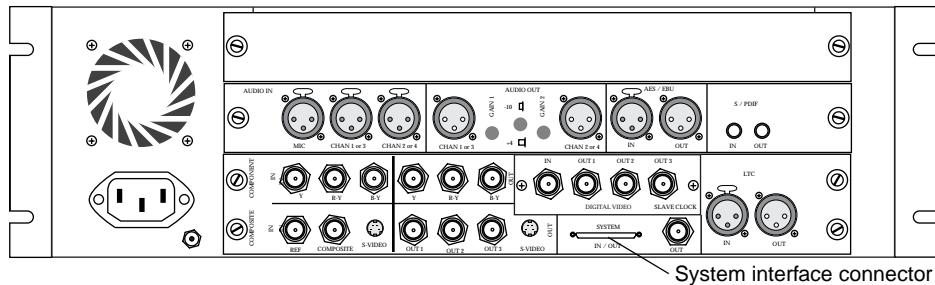

Figure 5-2 Meridien I/O Box to System Cable Connection
2. Connect one end of the digital data cable to the Meridien I/O box at the system interface connector shown in Figure 5-2.